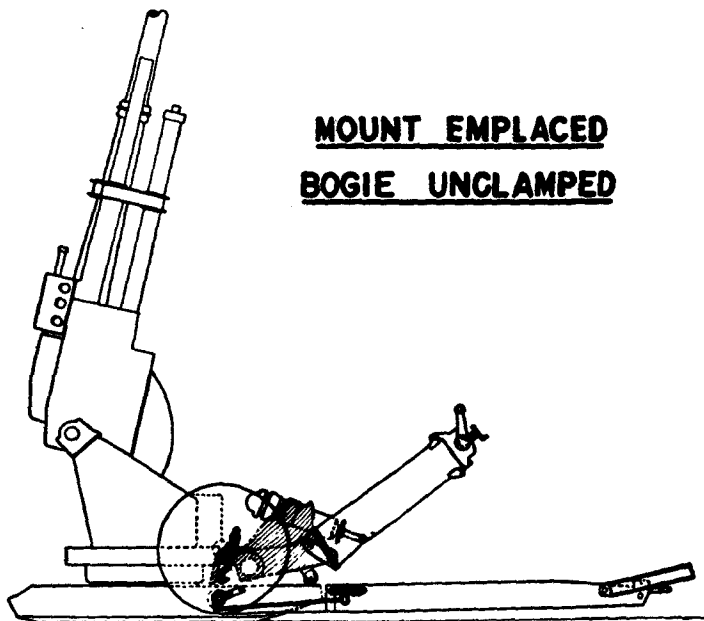

FIGURE 31.
d. After the trail is lowered, the bogie engaging eye operating handles (fig. 31) are pushed in to disengage the eyes from the eye hooks and the bogie is rolled out to the end of the trail. This accomplishes emplacement with the exception of leveling which is taken up elsewhere in the manual.